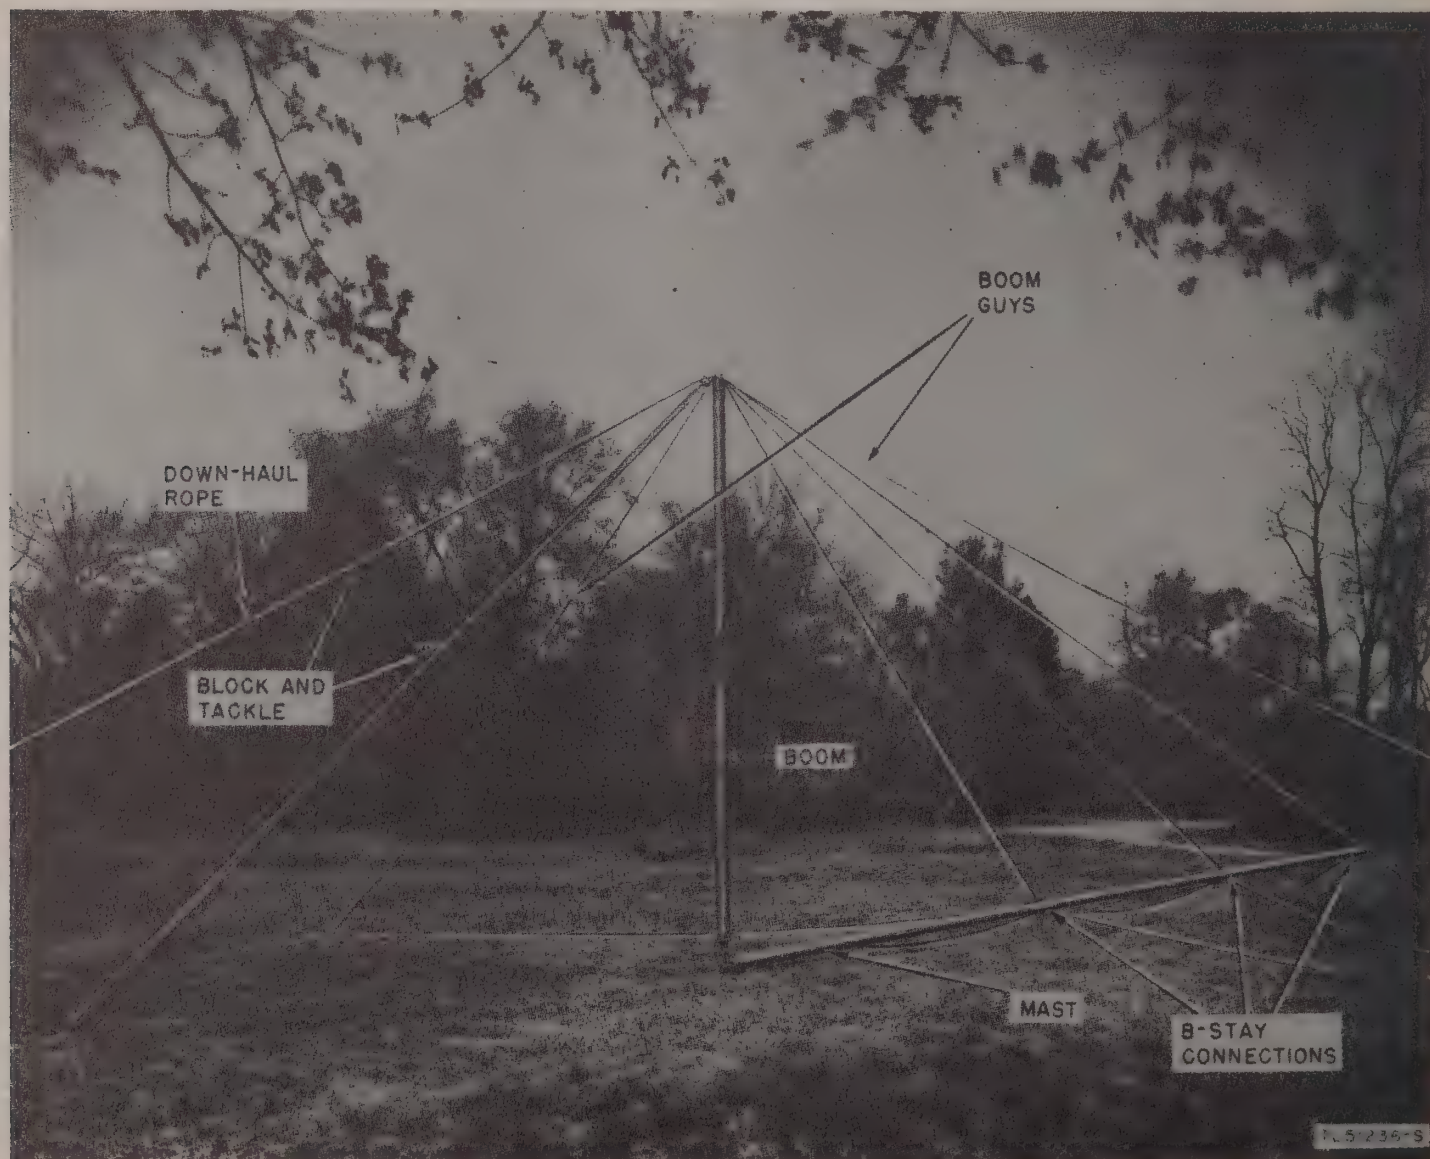

Figure 15. Boom assembly erected.
a. Boom. Lift the end of the boom off the ground 3 or 4 feet. This moves it over its dead center, enabling the block and tackle to pull the boom into a vertical position. Tighten the boom guys (fig. 15).
(2) *Fastening B Stays (fig. 15).* Using a $\frac{3}{8}$ -inch shackle, connect each B stay to the bottom side of the mast.